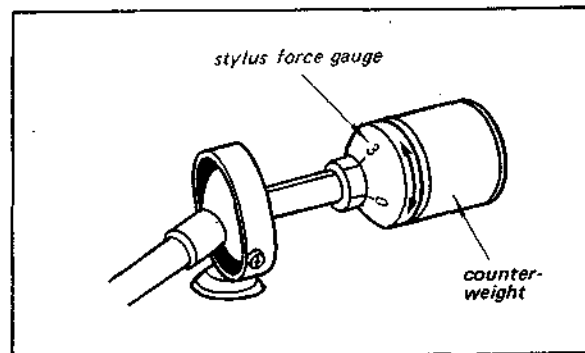

Fig. 3-8. Stylus force adjustment
Adjust the stylus force by turning the counterweight clockwise to obtain "3 g" reading on the stylus force gauge as shown in Fig. 3-8.
1. Turn the counterweight clockwise to obtain the "3 g" reading on the stylus force gauge as shown in Fig. 3-8.